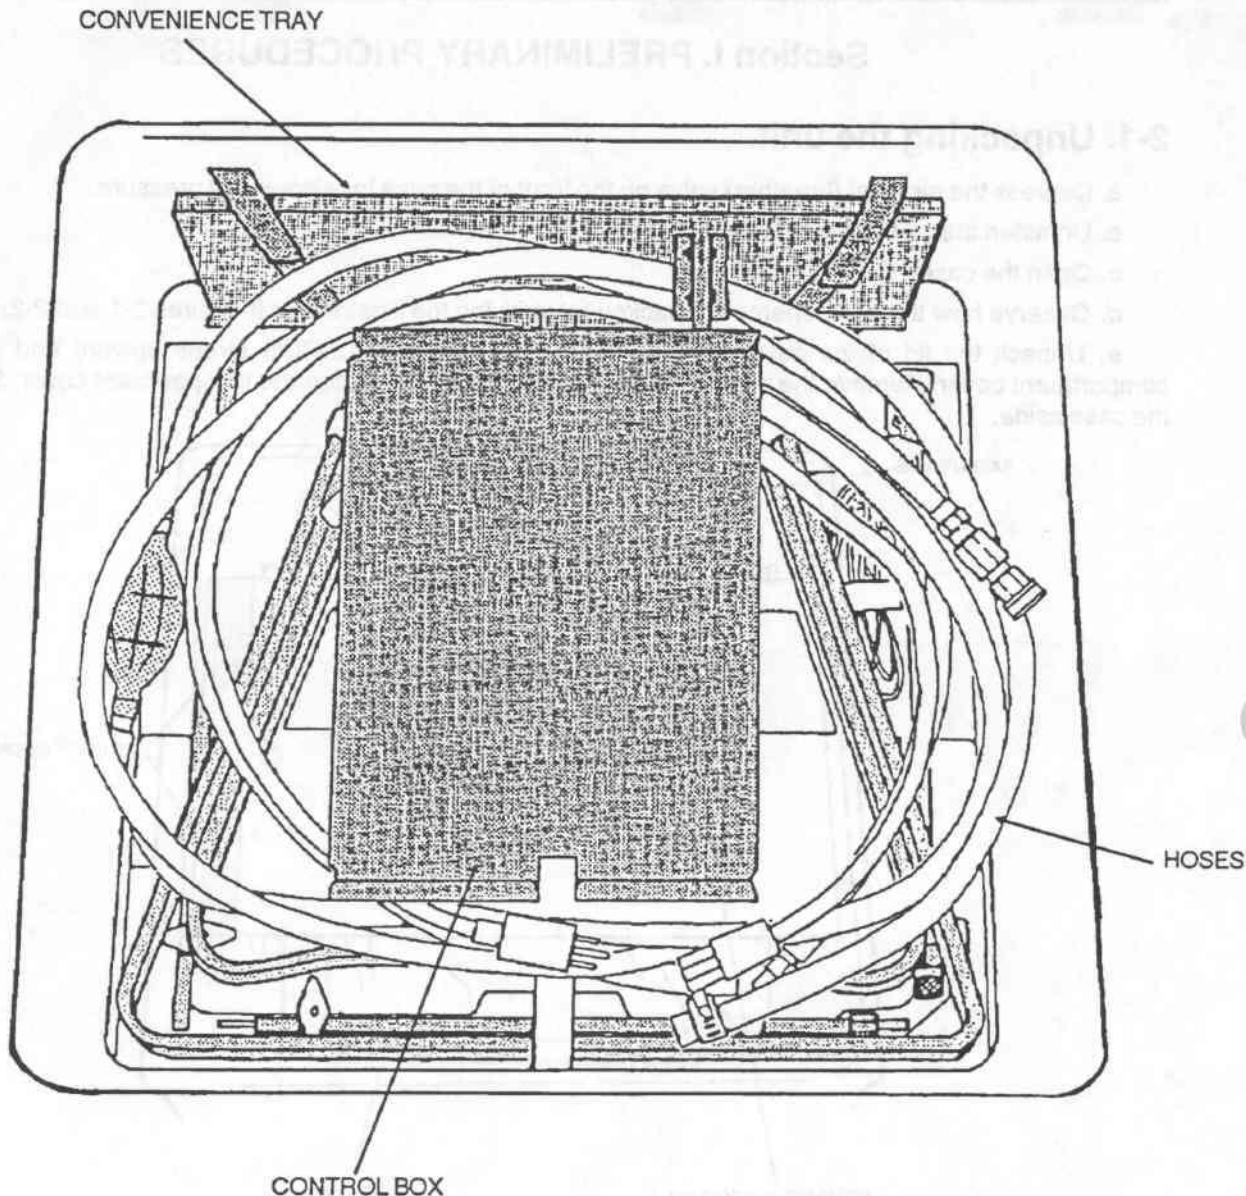

Figure 2-2. Case packing configuration.
- f. Unpack the upper level of the case (fig 2-2) by removing the following items:
- (1) Black rubber basin mat
- (2) Commercial manuals
- (3) Control box
- (4) 115-volt electrical power cable
- (5) Inlet and outlet hose assemblies and drain hose
- (6) Accessory pouches
(7) Spare components and basic issue items